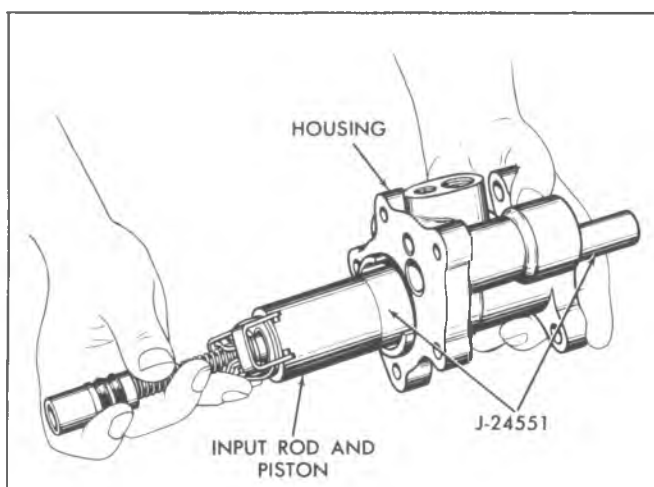

Fig. 7E--Installing Input Rod and Piston Assembly into Booster
6. Lubricate the piston and Piston Installing Tool J-24551 with clean power steering fluid. Insert the large end of the tool into the piston (fig. 7E), and slide the tool and piston into the piston bore and through the piston seal.